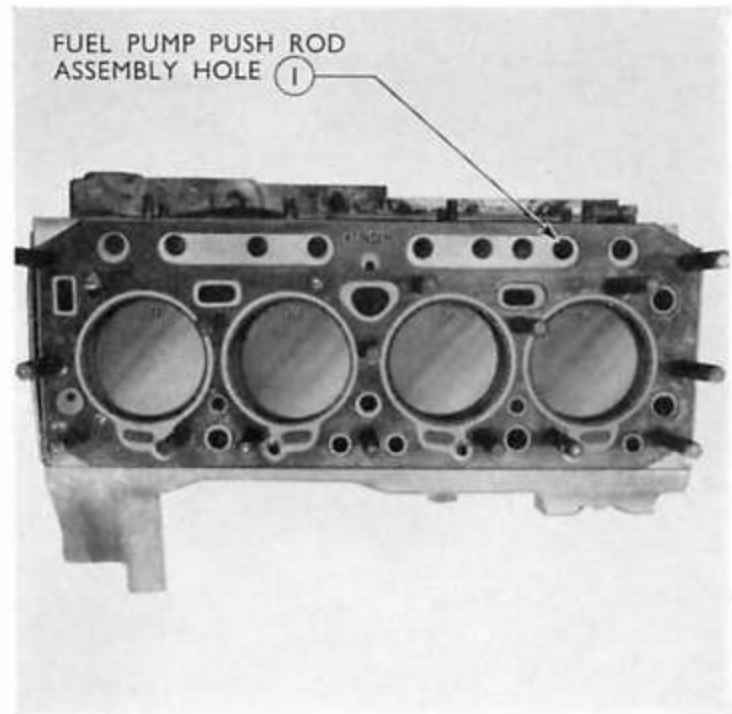

Fig. 52
25. Place the cylinder head gasket carefully in position on the cylinder block face, with the word "Klinger" showing in the appropriate location (see Fig. 52) 4/108 only.